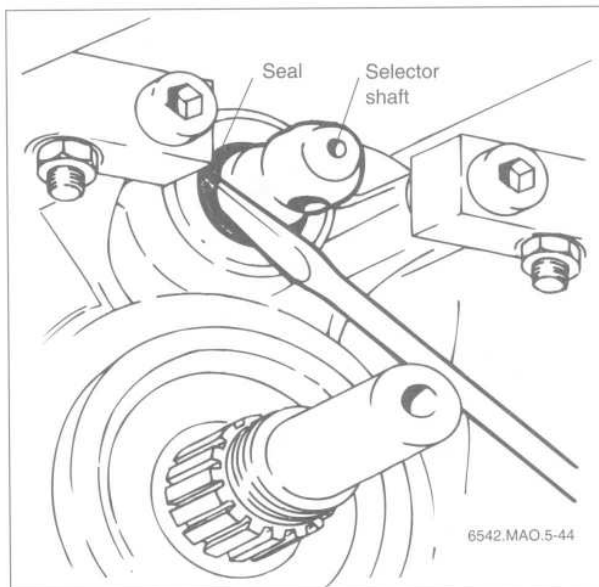

Fig. 4. Selector shaft oil seal being pried out with screwdriver.
- Pry out seal using pick or small screwdriver. See Fig. 4.